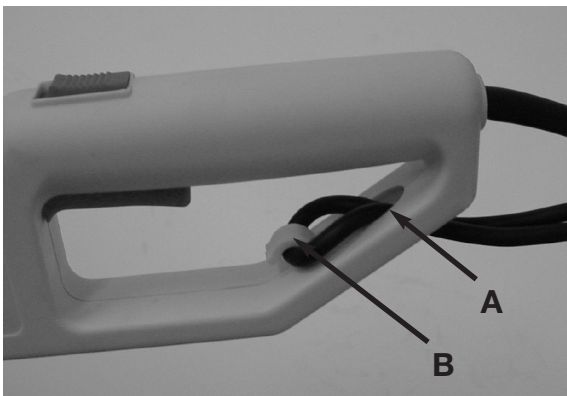

Fig. 11
3. Place the loop into the slot (A) under the rear handle and lock into place on the cord retainer (B) as shown in Figure 11.